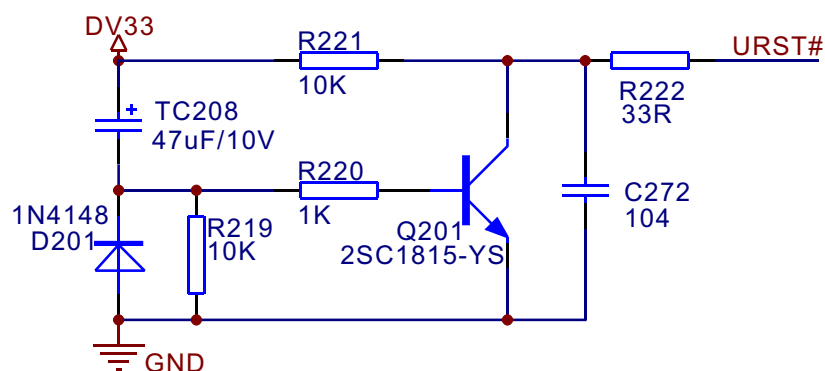

Figure 3.2.8.1 Reset circuit diagram
1. Reset circuit is shown in the figure 3.2.8.1: